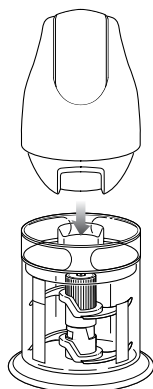

Fig. 4
- 8 Place the Master Pod on top of the splash guard making sure that it is securely in place. (fig. 4) **DO NOT** attempt to operate the appliance without the safety splashguard in place.